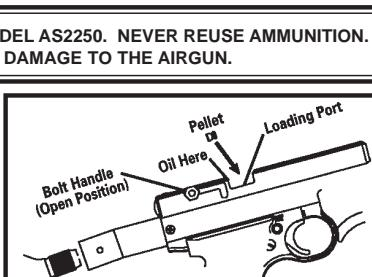

Fig 4
tip of the bolt should be visible in the breech. (Figure 4)
- Push bolt handle up and pull all the way back until you hear two clicks. (Fig. 4). This is a single shot pellet airgun. Load no more than one pellet at a time.
- Open the bolt. (See Section 4A) (Fig. 4)
- Your airgun will work best if you oil it every 250 shots. Put a drop of our Crosman #0241 Lubricating Oil directly on the tip of the AirSource CO₂ cartridge before inserting and on o-ring located on the bolt (Fig. 4) Do not over-oil as this can cause damage to your airgun. DO NOT use gun oil or any other oil which contains solvents. External metal surfaces should be wiped with a lightly oiled cloth after each use.